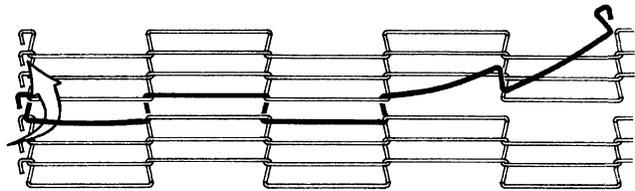

Figure 92: Attach Splicing Link to Wire Belt Link
- While still applying pressure on the screwdriver inserted in the link's loop, force the handle of the screwdriver over in the opposite direction to force the open end of the loop on the splicing link to catch the wire belt link that the screwdriver was inserted into. Refer to Figure 92.